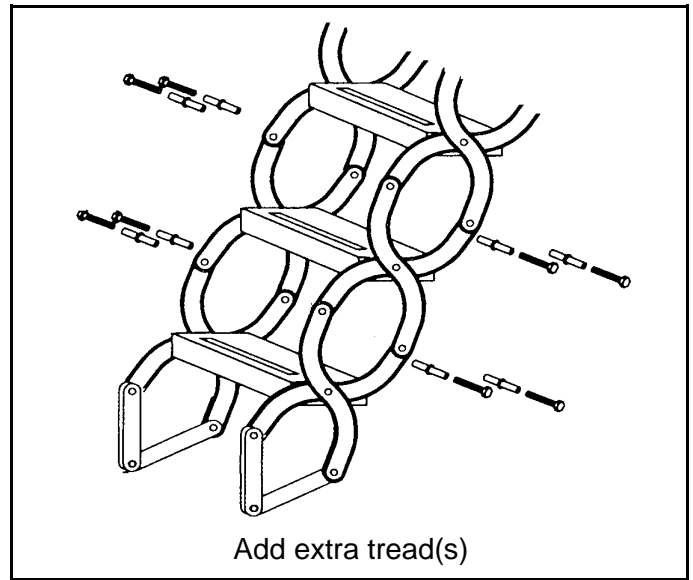

Figure 9
2. Attach step by reinserting sleeves, washers and bolts. Figure 9. (Additional hardware is provided)